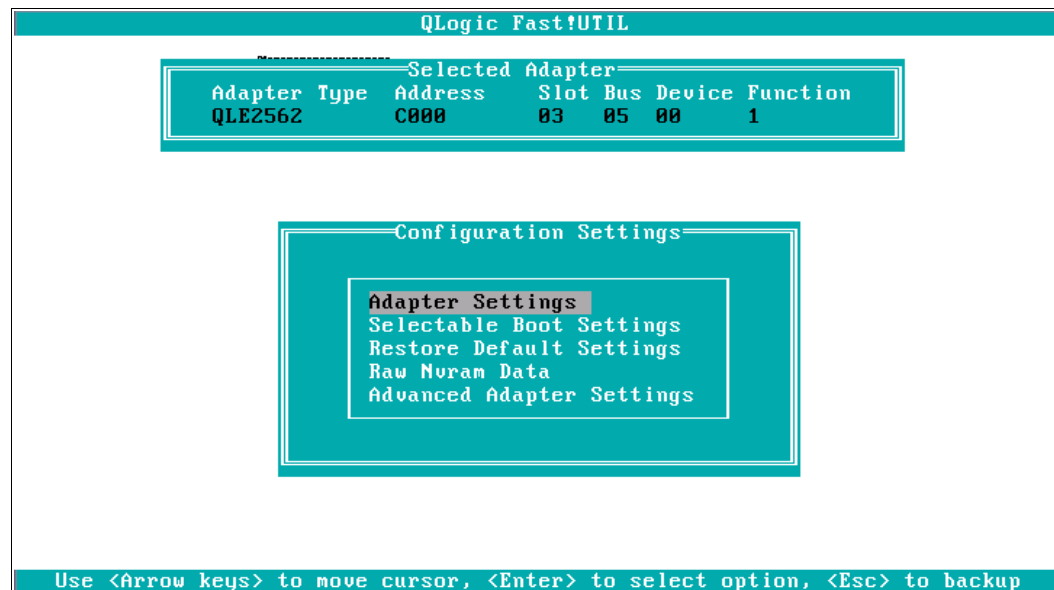

Figure 4-4 QLogic configuration panel: Configuration Settings
4. In the panel shown in Figure 4-4, select **Adapter Settings**.